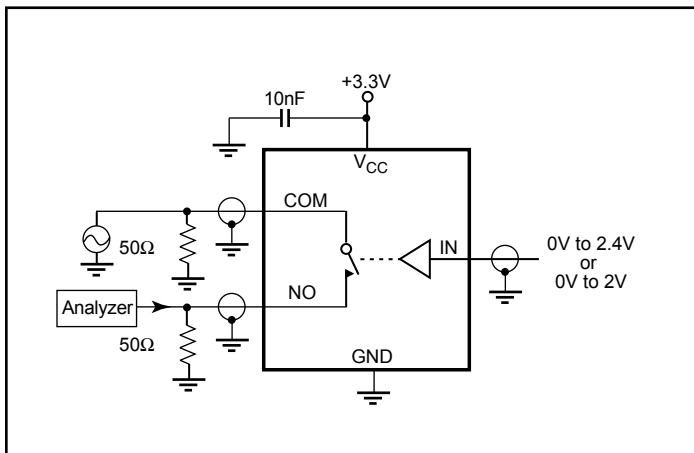

Figure 3. Off Isolation
7. Off Isolation = $20 \log_{10} [V_{COM} / (V_{NO} \text{ or } V_{NC})]$. See Figure 3.